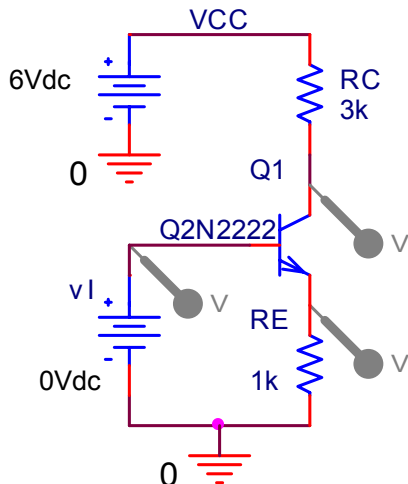
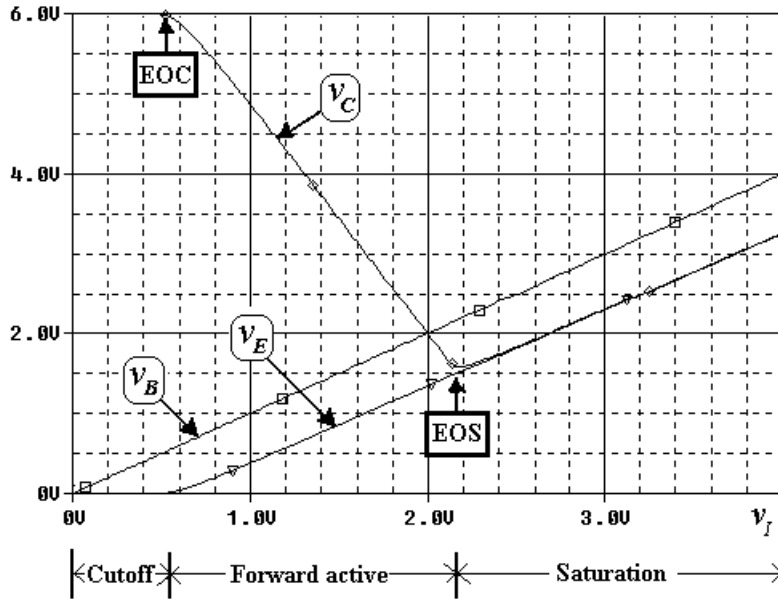

Fig. 6 – PSpice circuit to display the emitter and collector VTCs
Fig. 7 – Voltage transfer curves for the circuit of Fig. 6.
To gain additional insight into BJT operation, we use the PSpice circuit of Fig. 6 to sweep the BJT sequentially through each of its three operating regions. The resulting voltage transfer curves (VTCs), shown in Fig. 7, allow us to make the following observations:
or $A_v \cong -(3/1) = -3$ V/V in the example shown. Figure 7 confirms this. Equation (8) forms the basis
of the familiar **rule of thumb**: The gain of the circuit of Fig. 6 is approximately equal to the ratio of the collector resistance R_C to the emitter resistance R_E .